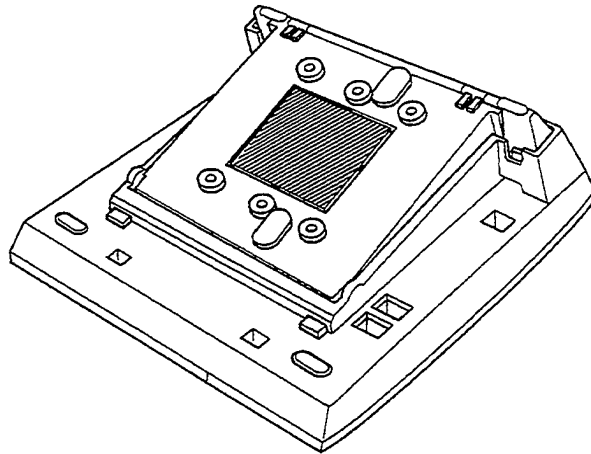

Figure 1-61 Remove the Knockout
3. Use nippers to remove the shaded area in Figure 1-61 Remove the Knockout